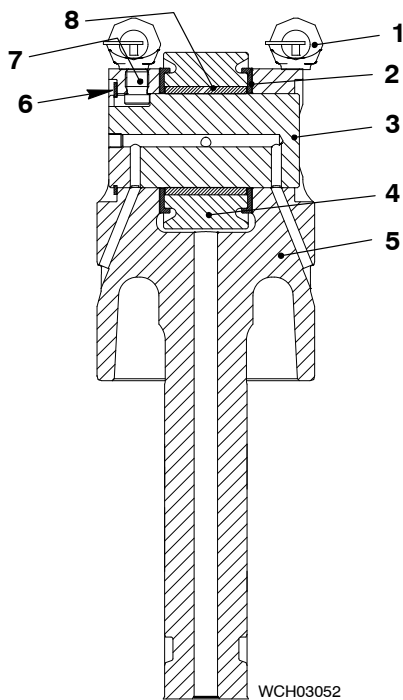

Fig. 7
- 1) Attach the two M10 eye bolts (1, Fig. 7) into the guide piston (5).
- 2) Remove the guide piston (5) from the housing.
- 3) Remove the circlip (6).
- 4) Remove the pin (7).
- 5) Push out the roller pin (3) then remove the roller (4), bush (8) and the two pressure discs (2).